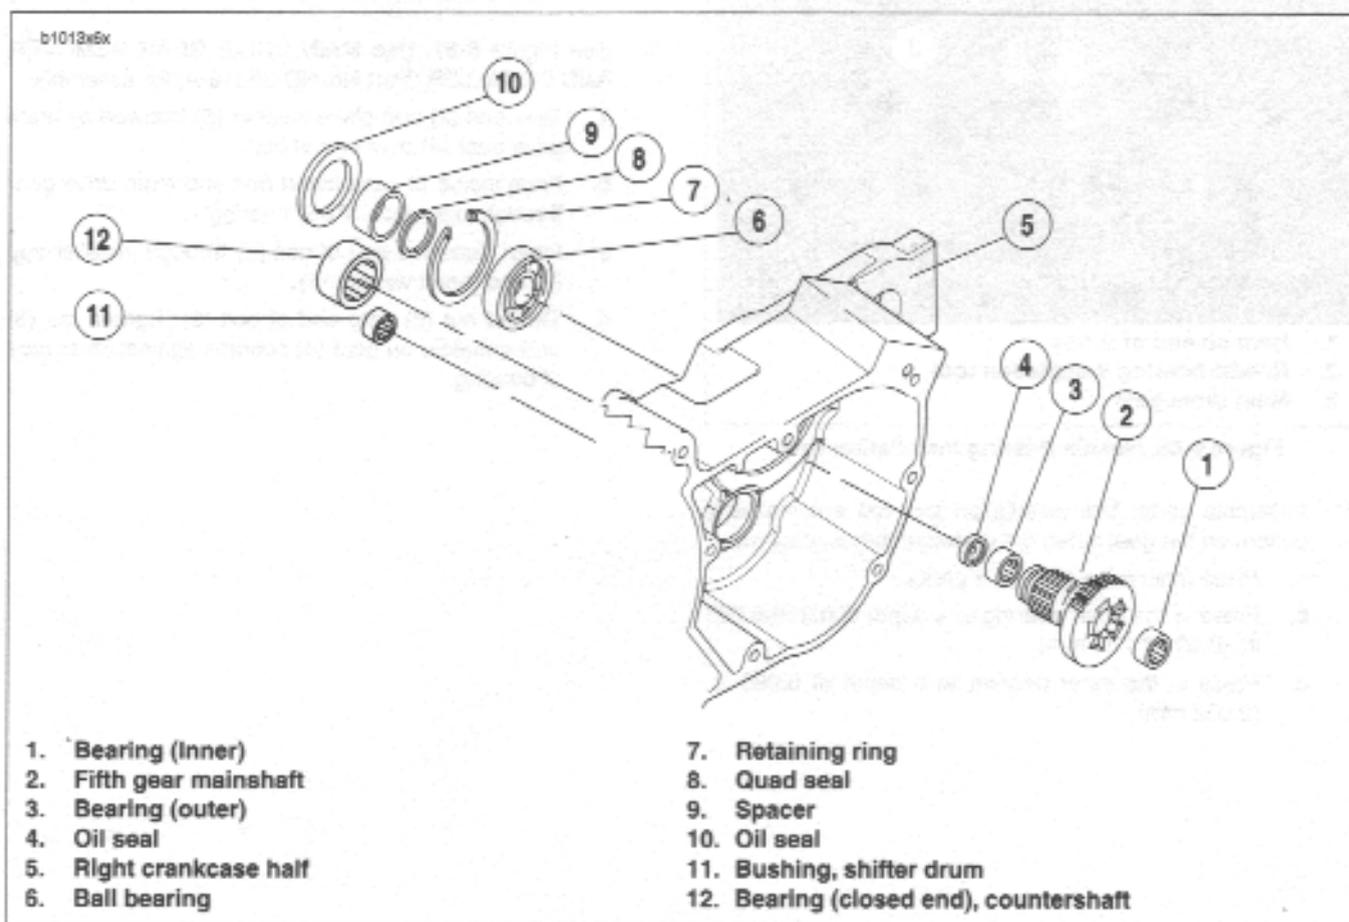

Figure 6-69. Transmission Assembly Right Crankcase Half
4. See Figure 6-69. Place new quad ring over threaded end of fifth gear, and position next to the gear taper. Install spacer over threaded end of fifth gear with chamfered end toward quad ring. Slide spacer up against bearing.
See Figure 6-69. Refer to Transmission assembly right crankcase half, for location of items discussed on this page.
2. See Figure 6-69. Remove main drive 5th gear. Use MAIN DRIVE GEAR REMOVER AND INSTALLER (Part No. HD-35316A). See 6.9 MAIN DRIVE GEAR.
2. See Figure 6-69. From the outside of the case place the needle bearing open end first next to the bearing bore. Hold the driver squarely against the closed end of the bearing and tap the bearing into place. The bearing is properly positioned when it is driven inward flush or 0.030 in. (0.762 mm) below the outside surface of the case.
4. See Figure 6-69. The shifter drum bushing (11) is a press fit in the right crankcase half. Inspect the bushing against the corresponding end of the shifter drum for proper fit and wear.